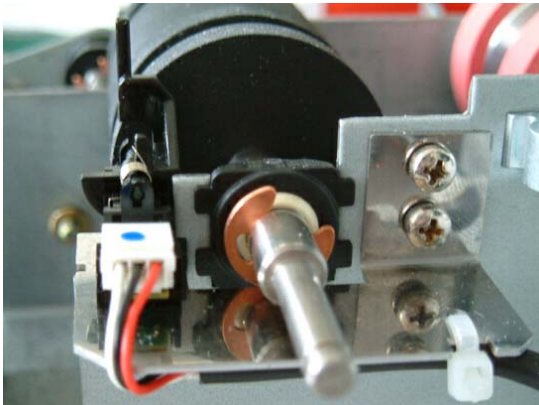

Fig.56
- Remove the two Philips screws holding the sensor bracket and cut wire ties. (Fig.56)